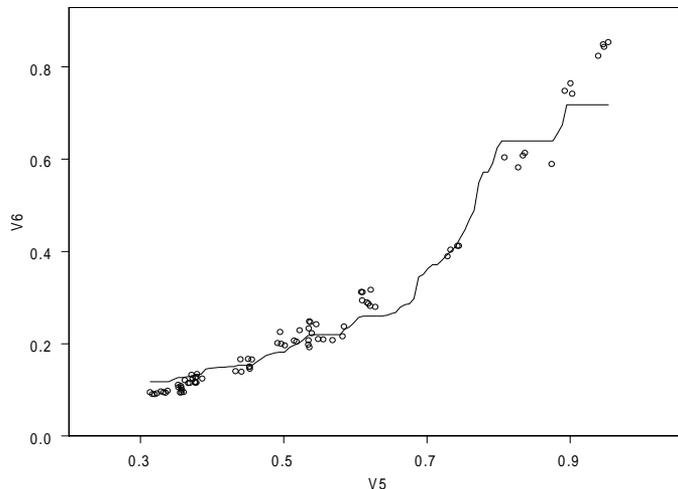

Figure 3.15: *Sensor 5 versus sensor 6 with a box kernel smoother line using bandwidth 0.3.*
2. On the **Smooth/Sort** page of the **Line/Scatter Plot** dialog, notice the default value for the smoother bandwidth (look in the **Bandwidth** box of the **Kernel Specs** group). Experiment with various bandwidth choices between 0.1 and 0.6 by entering different numbers in the **Bandwidth** box and clicking **Apply** (so that the **Line/Scatter Plot** dialog remains open). Which bandwidth produces the best “by eyeball” curve fit? The smoother with bandwidth choice 0.3 is shown in Figure 3.15.